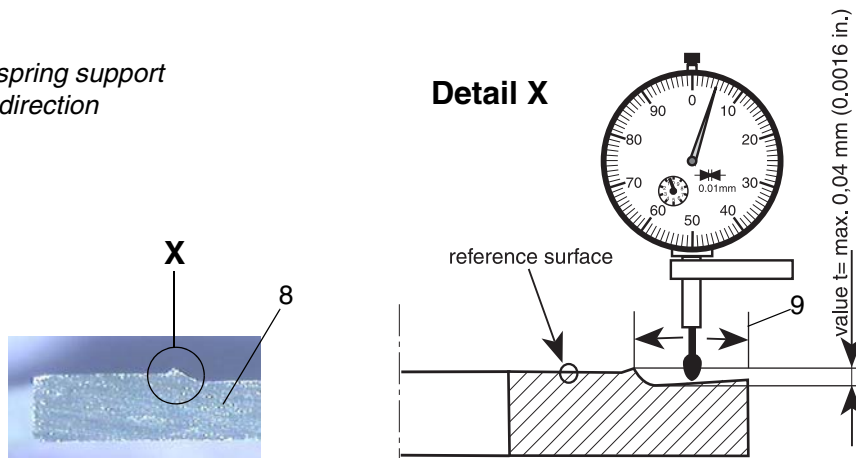

Fig. 4
1	<p>Inspect valve spring support (8). Measure the wear referring to the reference surface (inner area of valve spring support) in radial direction (9) to outer side with a dial gauge. Value $t = \max. 0.04 \text{ mm (0.0016in.)}$. See Fig. 4. An exceeding of $\max. 0.04 \text{ mm (0.0016 in.)}$ is not acceptable.</p> <p>NOTE: The valve spring support indicates a possible malfunction of valve train caused by incorrectly or insufficiently purged hydraulic valve tappets. At standard conditions no wear is visible even after a long time of operation. If the visual inspection shows some wear on the valve spring support surface, measure the actual wear with a dial gauge.</p>